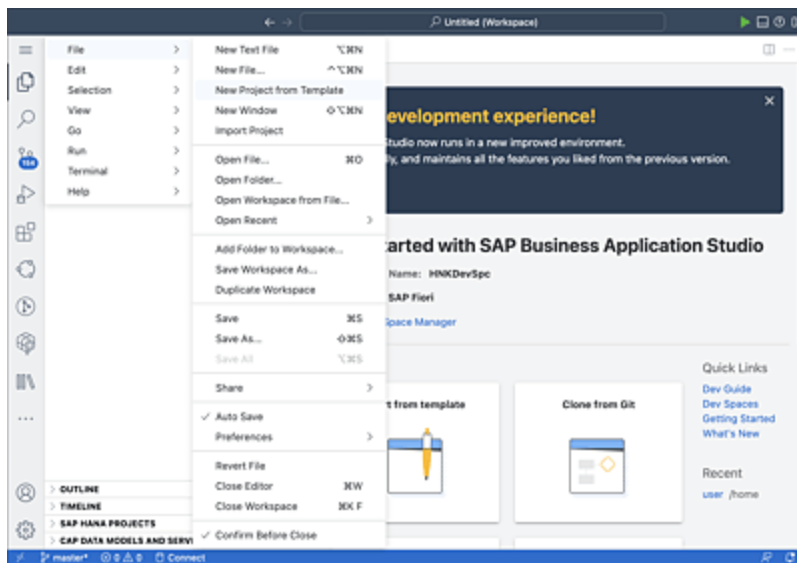

Figure 18.1 Create a Multi-Target Application Project in SAP Business Application Studio
1. Create a new project in SAP Business Application Studio by choosing **File • New Project from Template**, as shown in Figure 18.1.